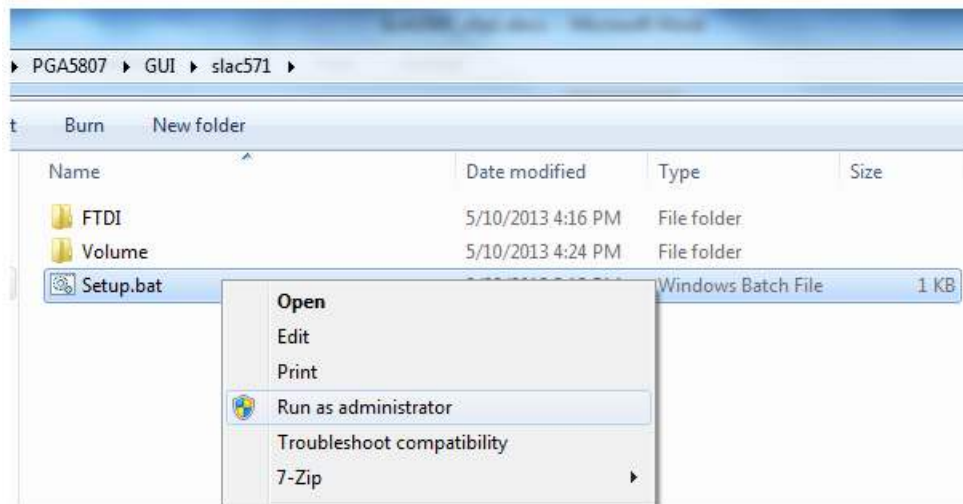

Figure 11. PGA5807 GUI Install (a)
- Unzip the folder and run the *Setup.bat* file as administrator by right clicking on it and selecting *Run as administrator* as shown in Figure 11.